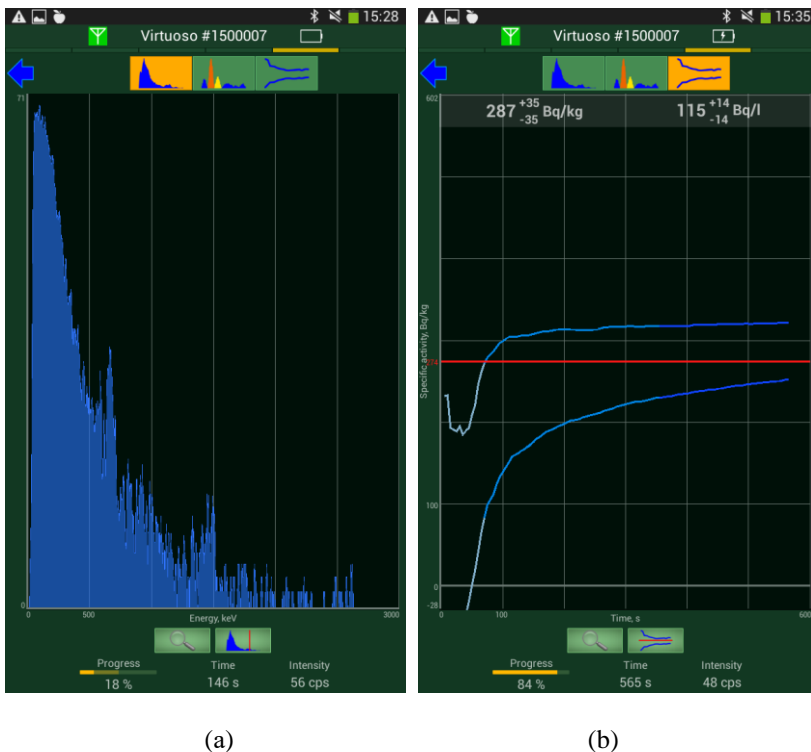

Figure 2.12 - Searching for cesium isotopes (expert mode)
2) The expert mode features two display options as shown in Figure 2.12.
1 A gamma radiation spectrum (Figure 2.12 (a)) is activated upon tapping a  button. The experienced users with its help can visually control (observe) typical display of cesium radiation in the spectrum or control potential abnormalities of background radiation.
2 A “trend” display (Figure 2.12 (b)) is activated with a  button and features a diagram of maximum and minimum activity values with a true value within their limits. The values of specific activity in Bq/kg and volume activity in Bq/l, as well as a current measurement error are represented in the diagram.